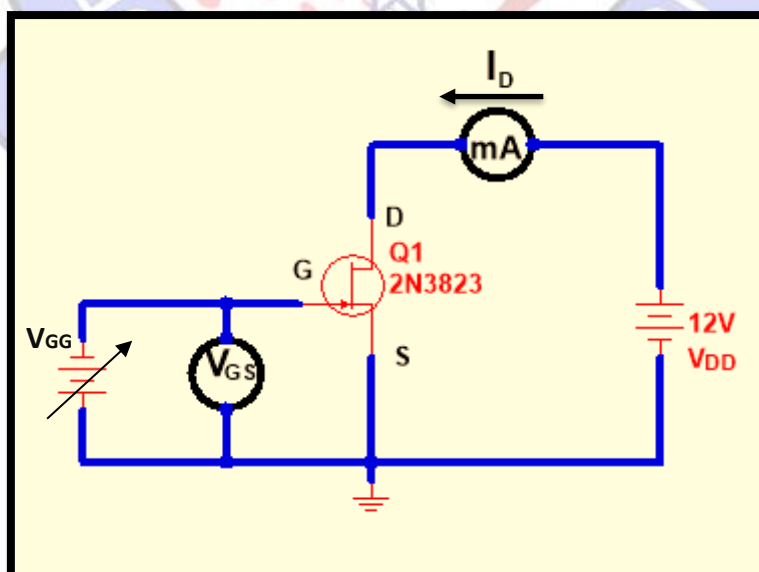

Figure 5: Test Circuit for Measuring  $V_P$
2. Connect the test circuit shown in Fig.5 to measure  $V_P$ . The gate supply voltage  $V_{GG}$  is adjusted from 0 to larger negative values until the drain current  $I_D$  just reaches 0. The voltage  $V_{GS}$  to just cause the drain current to reach 0 is the measured value of  $V_P$ . Tabulate your results as shown in Table-1.